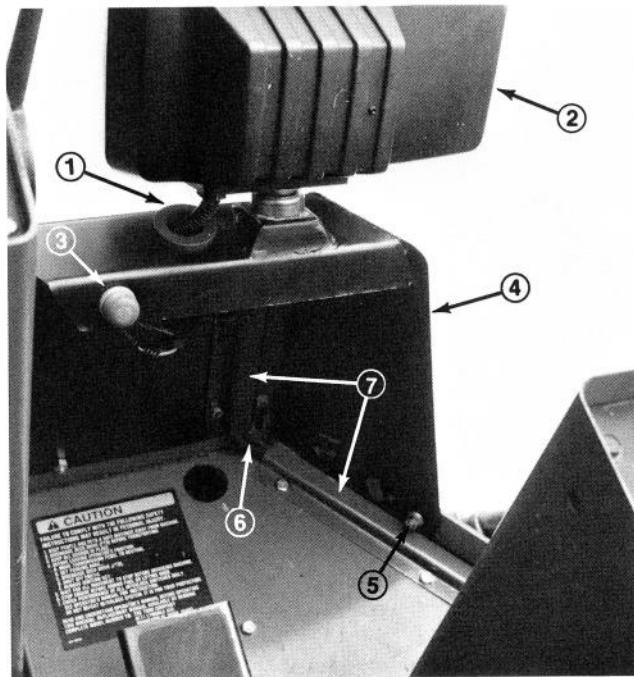

Figure 18
1. Slide a grommet onto the harness for each headlight assembly. Mount the left and right hand headlight assemblies into the holes on each side of the front shroud and secure with a flat washer, lock washer and hex nut (Fig. 18). Insert the wire harness into each hole and install the grommets (Fig. 18).
2. Assemble the wire assembly to the horn switch. Insert the switch into the shroud and secure with the horn switch cover (Fig. 18).
3. Mount shroud assembly and secure to front main frame with 5/16 x 5/8 in. flange head screws and lock nuts (Fig. 18).
4. Route the wire harness horn and headlight wires up and out the grommet in the front of the diagnostic cover and alongside the right floor plate. Connect to the horn switch and headlight assemblies (Fig. 18). Connect the connector containing the red wire to the right hand headlight assembly. Attach white ground wires to one of the wire cover mounting screws.
5. Install the wire covers. Secure the covers to the shroud with 1/4-20 nuts and the cover on the floor plate with 5/16 x 5/8 in. flange head screws and lock nuts (Fig. 18).